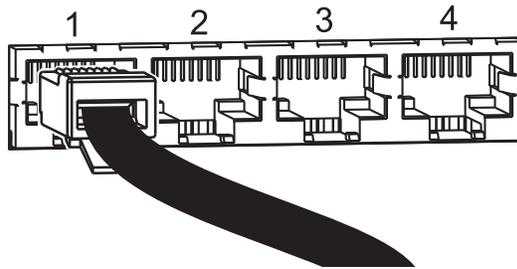

FIG. 56 Insert RJ-45 connector into RJ-45 receptacle
1. Insert the RJ-45 cable connector into the output RJ-45 receptacles (FIG. 56).